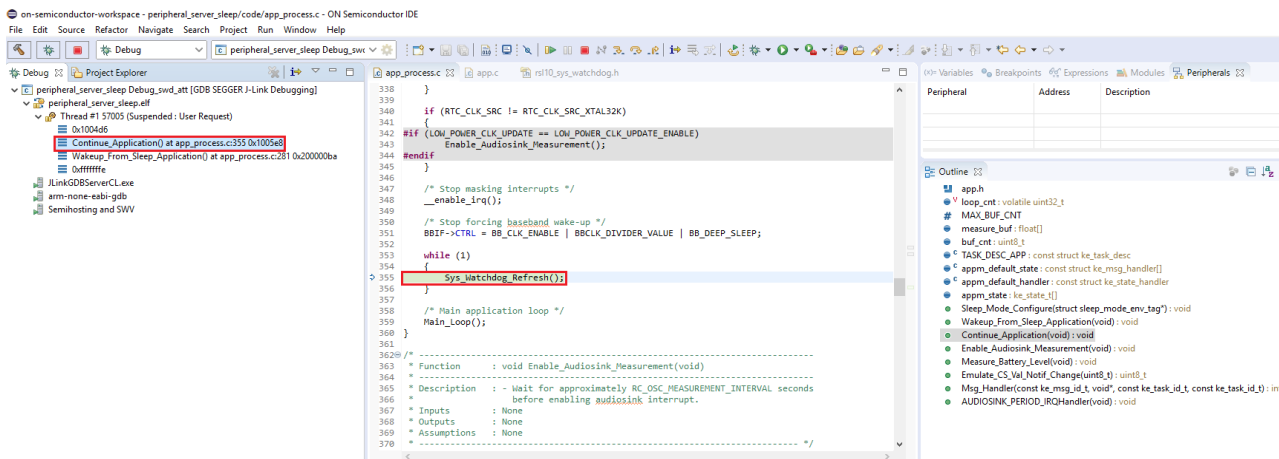

Figure 53. Second Debug Session Perspective After Connecting to the Running Target
8. After the target exits Deep Sleep Mode, it is running in the infinite loop (step 1), and you can connect to the running target by starting the second debug session (see the figure "Second Debug Session Perspective After Connecting to the Running Target" (Figure 53)). Note that the debugger is able to reattach to the running target and halt the processor after waking up from sleep.